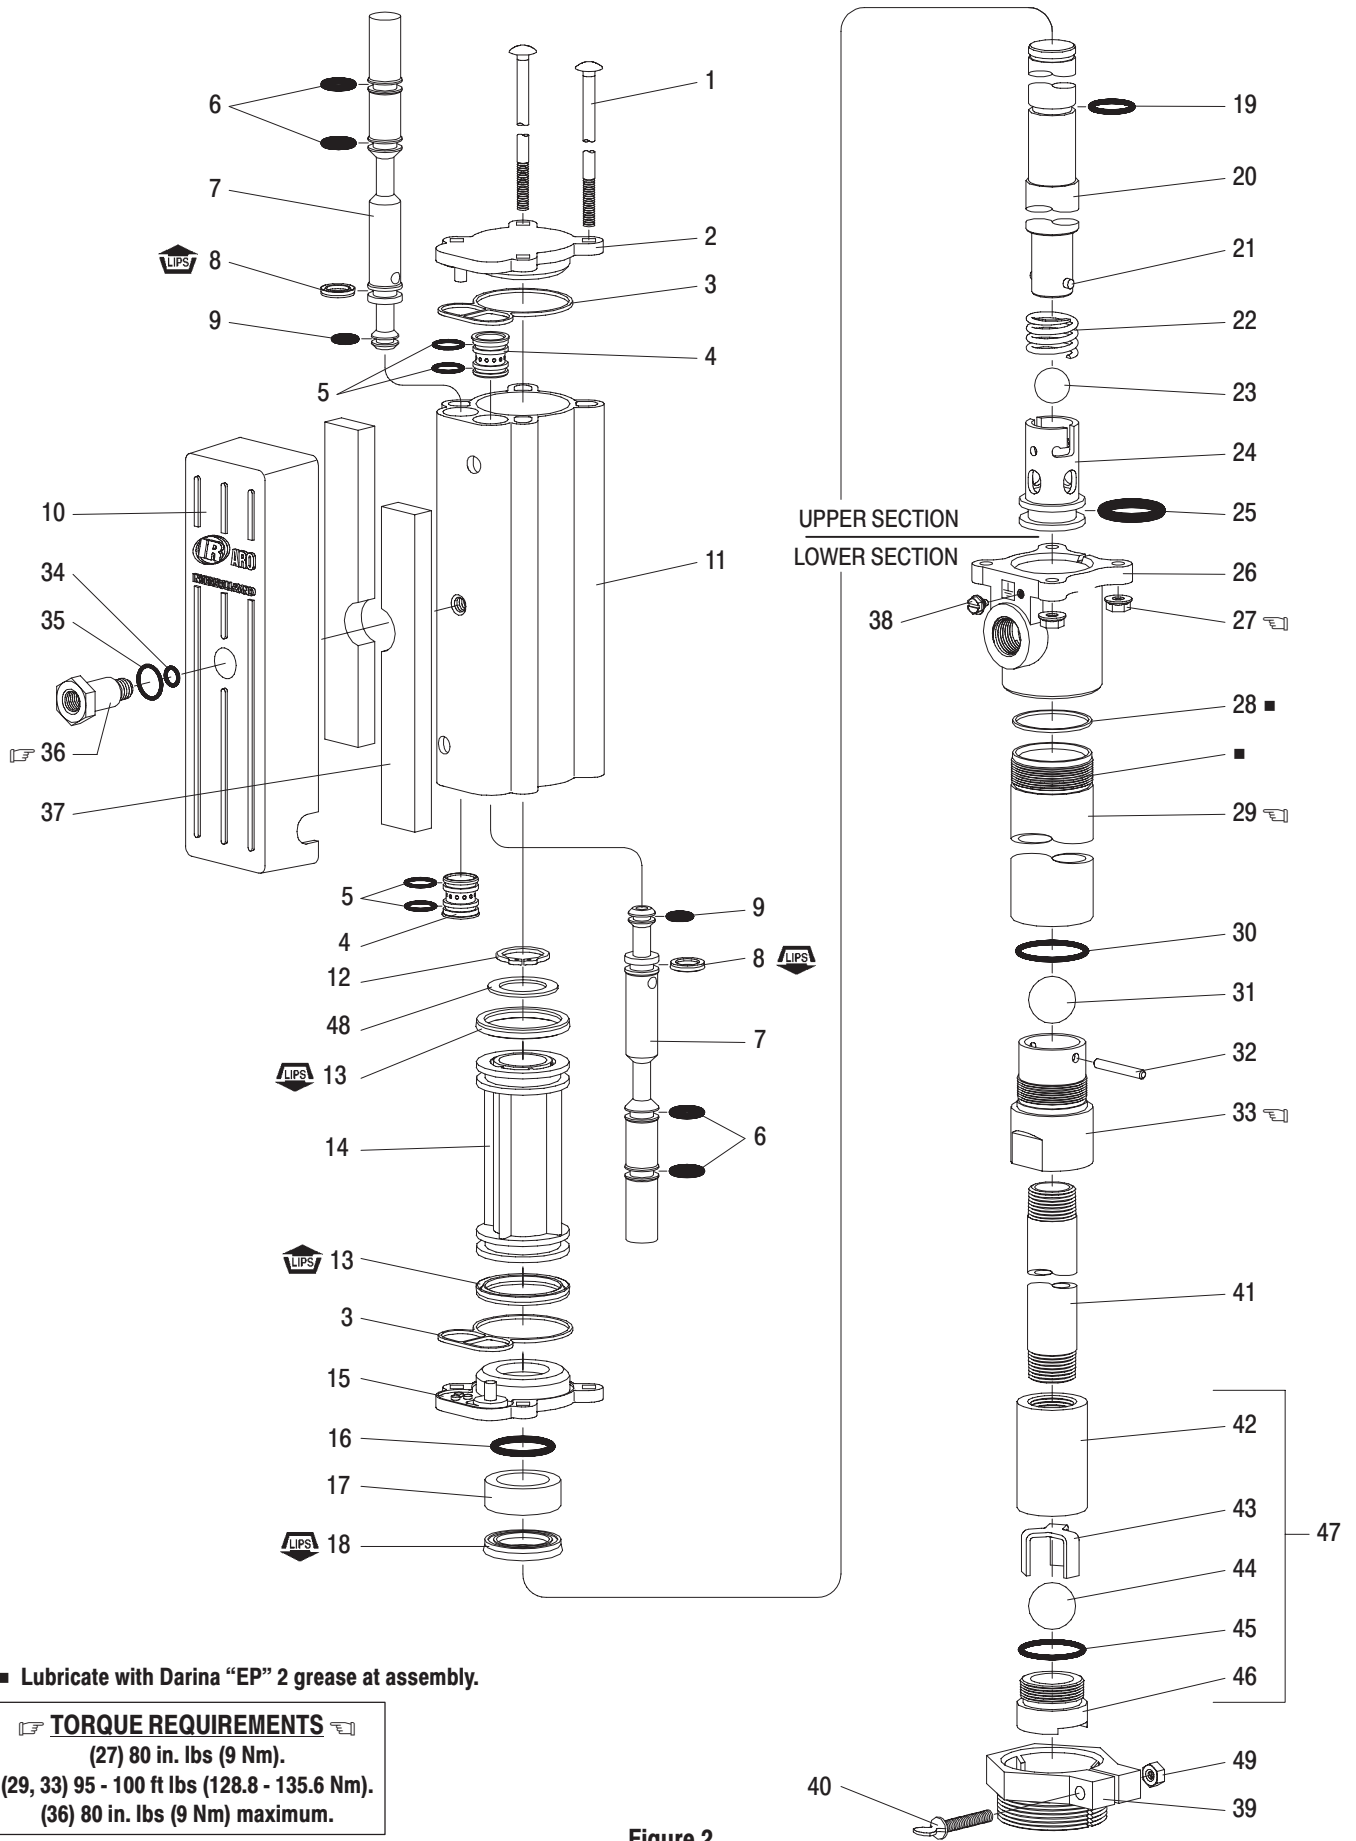

Figure 2
NOTICE: The unique design of this pump allows for quick basic pump service without total removal from the drum (refer to the views below). **DISASSEMBLY – All threads are right hand. Refer to figure 2. These procedures are for the installation of repair kit parts. Disconnect air supply and relieve all system pressure prior to servicing.** Carefully remove the parts, inspect parts for damage, nicks or excessive wear and determine if any parts will need replacement.
Note: Refer to the illustration (figure 2) for "U" cup lip seal direction.
1. Replace the seals on both the (7) spools and (4) sleeves.
2. Locate the valve chamber on the (11) cylinder where the 3/8" dia. hole is located and install one of the (4) sleeves. Insert the (7) spool from the opposite end. Next, install the remaining sleeve and spool.
3. Replace the (3) track gasket and install (2) cap.
4. Replace the (13) piston "U" cups (refer to figure 2 for proper orientation). Replace the (19) "O" ring and assemble (14) piston to (20) piston rod and retain with (48) washer and (12) retaining ring.
6. Replace the (3) track gasket and install the (15) cap. Install the (16) "O" ring onto the piston rod, replace (17) bushing and (18) packing.
7. Replace the (25) "O" ring and re-attach the (24) inner check.
8. Slide the pump assembly back into the (26) base / lower pump section. Press the sections together and align the air inlet and pump outlet as required and replace the four (1) bolts and (27) nuts (tighten to 80 in. lbs (9 Nm).